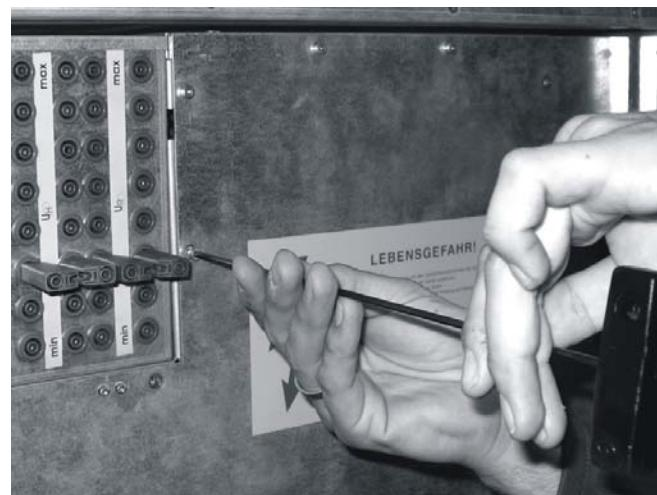

Figure 12: Removing screws from face of EMI shielding
4. Use the 3 mm allen key to remove the screws on the front (face) of the EMI shielding (see Figure 12).
8. Use the 3 mm allen key to insert and tighten the screws on the front (face) of the EMI shielding (see Figure 12 on page 30).